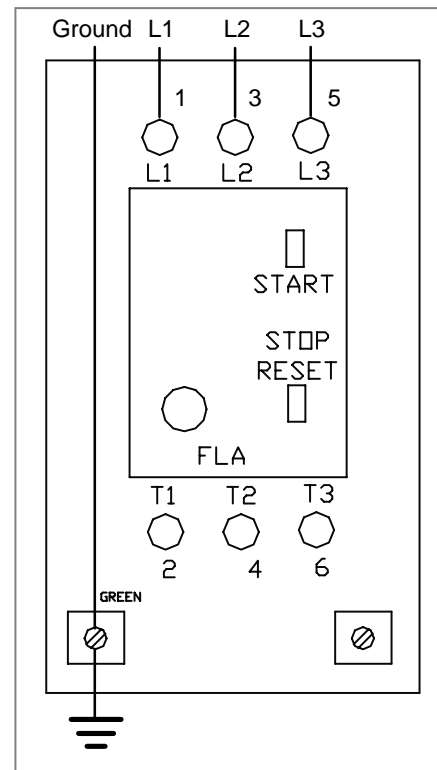

Figure 12
2. Insert line cord through grip (AB) and tighten nut.
3. For correct three-phase motor shaft rotation, connect line phase sequence L1, L2 & L3 to terminals as shown (Figure 12).
NOTE: The motor ground wire is also attached to left terminal marked \perp (Figure 12).
4. Attach ground wire to lower left terminal marked \perp (see Figure 12).